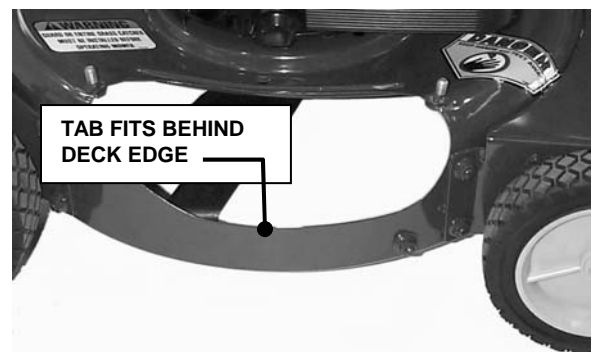

FIGURE 2.8
**2. INSTALLATION:** When reinstalling the cover, the deck sidewall should fit between the tab and outside of cover. Tighten knobs securely. See Figure 2.8.